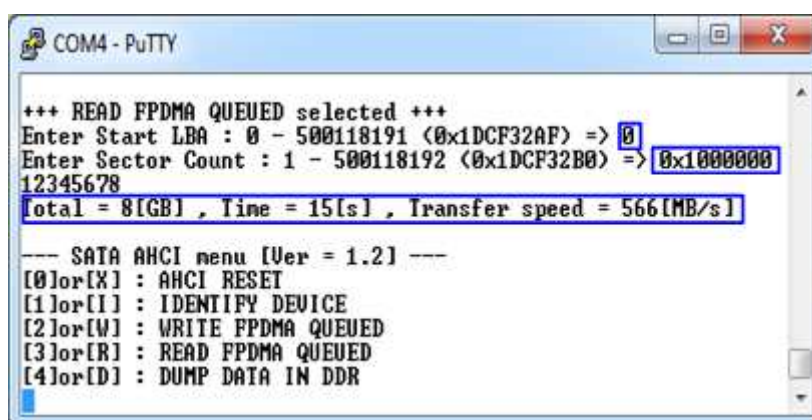

Figure 3-5 READ FPDMA QUEUED command without verify
- Sector Count: same description with Sector Count in WRITE FPDMA QUEUED menu. If this input is not more than 65536, the third input will be displayed for selecting verification pattern. If input is more than 65536, the third input will not be displayed to skip data verification process for checking performance only, as shown in Figure 3-5.